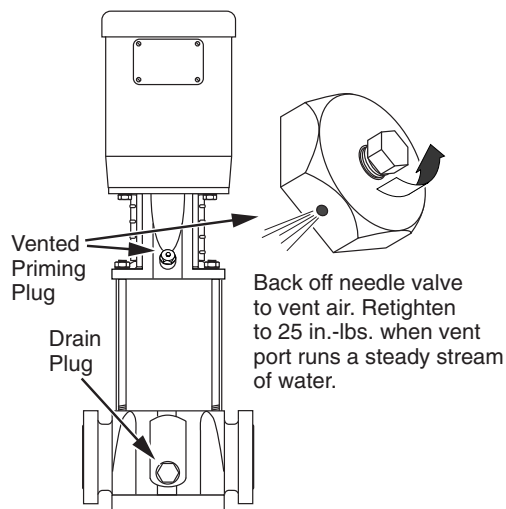

FIGURE 8 - Priming and Drain Plugs
1. Close the discharge isolating valve and loosen the needle valve located in the assembly in the pump head (Figure 8). Do not remove the needle valve.